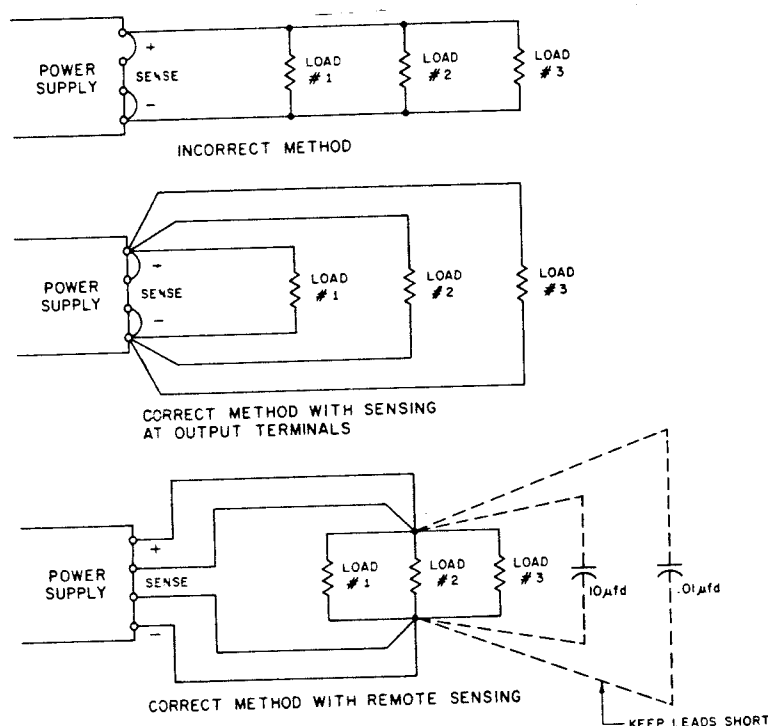

FIGURE 2-2 CORRECT AND INCORRECT METHODS OF CONNECTING MULTIPLE LOADS.
When this switch is OFF the voltage and current can be set to the desired crossover point. When the switch is then turned ON the unit will draw the amount of current determined by the load resistance. The current will not exceed the amount set on the current digital display. Voltage and current may also be adjusted when the unit is under load. See figure 2-2.
- 2-15 When more than one load is connected to the power supply the connection should be as shown in Figure 2-2.